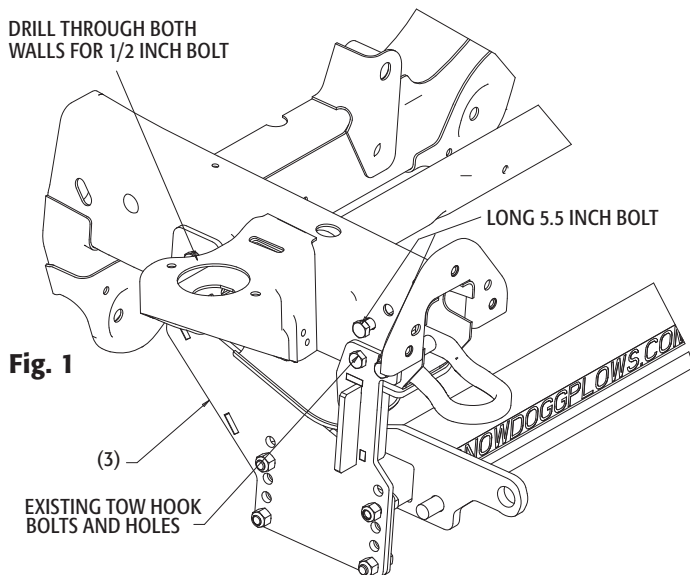

Fig. 1
7. Using the **MOUNT PLATE** (3) as a template, drill $\text{\O}0.531$ hole for the rear bracket thru both walls of the frame as shown in the Fig 1 and Fig 2.
8. Install one $\frac{1}{2}$ "-13x5.5" **HEX HEAD BOLT** (4) and one $\frac{1}{2}$ "-13 **LOCK NUT** (5). Do not over-tighten – do not deform the frame.
9. Repeat steps 3-8 for the DS Side Mount Plate (2).
10. Mount the **PUSHBAR** (1) in place between the two side plates using eight $\frac{1}{2}$ "-13x1-1/2" **HEX HEAD BOLTS** (6) and eight $\frac{1}{2}$ "-13 lock nuts (5). The centerline of the Pushbar Crosspin should be approximately 8.75" from the ground. The air dam of the vehicle may need to be altered to accommodate this height. Improper mounting height will result in uneven cutting edge wear.